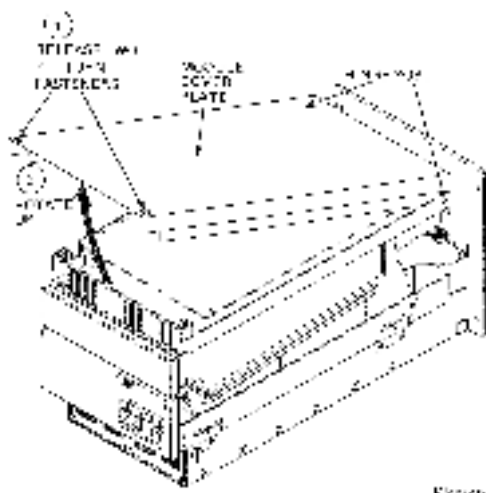

Figure 4-13 Removing the Module Cover Plate
2. Remove module cover plate by releasing two $\frac{1}{4}$ -inch fasteners at front of drive (Figure 4-13). Then rotate front of cover plate up on two studs at rear of drive. Remove cover plate by lifting it off studs.
2. Remove module cover plate by releasing two 1/4-turn fasteners at front of drive (Figure 4-13). Rotate front of cover plate up and slide it off two studs at rear of drive.
3. Perform this step for master drive only. Rotate controller module up on its hinges to reach connecting plugs. On the controller module, remove cable connectors at jacks J2, J3, and J6 (Figure 4-13). Jacks J2, J3, and J6 are the lock/slot type. Grasp two tabs at ends of jack and rotate out. This releases cable connector.